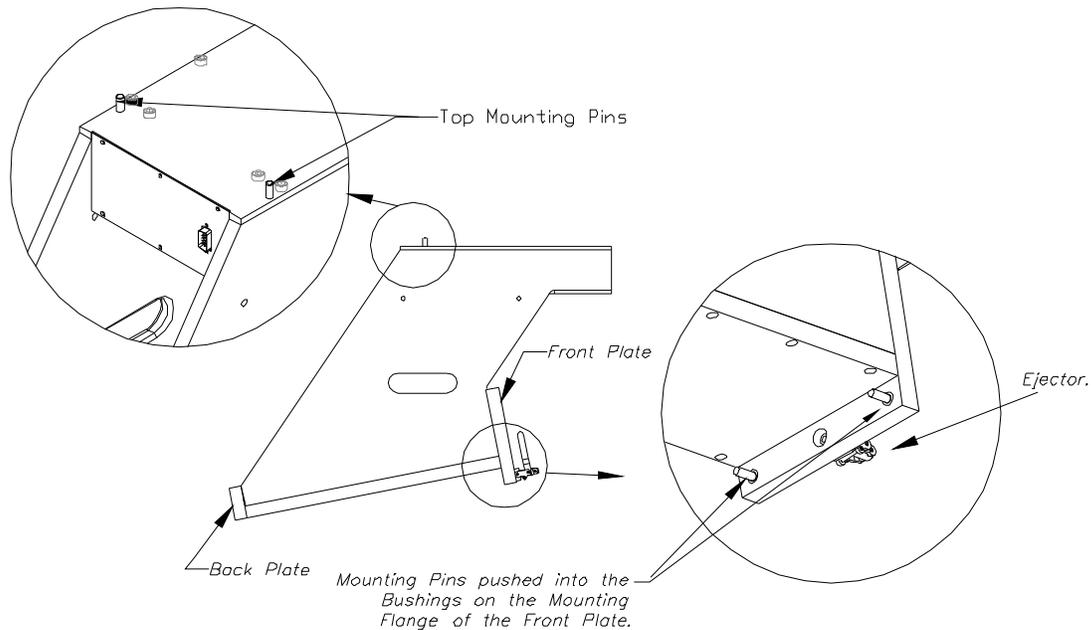

Figure 2. Left Hand Side Shown
- A. Insert the calibration pins into the bushings in the mounting flange of the HUD Simulator. Push the calibration pin in until it is flush with the front of the HUD Simulator. Do **NOT** use force. These should be removable by hand. See Figure 2. Measure with a micrometer, the diameter of the 2 mounting pins. Measure the outside to outside distance and calculate the center to center distance of the pins. Record the measurements below.